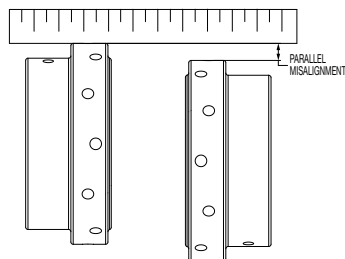

Figure 4 - Parallel Misalignment
3. Check parallel misalignment by placing a straight edge across the outside diameter of the hubs and measuring the gap between the straight edge and the hub at four locations 90° apart, as seen in Figure 4. Adjust equipment until the gap does not exceed the value shown in Table 3.